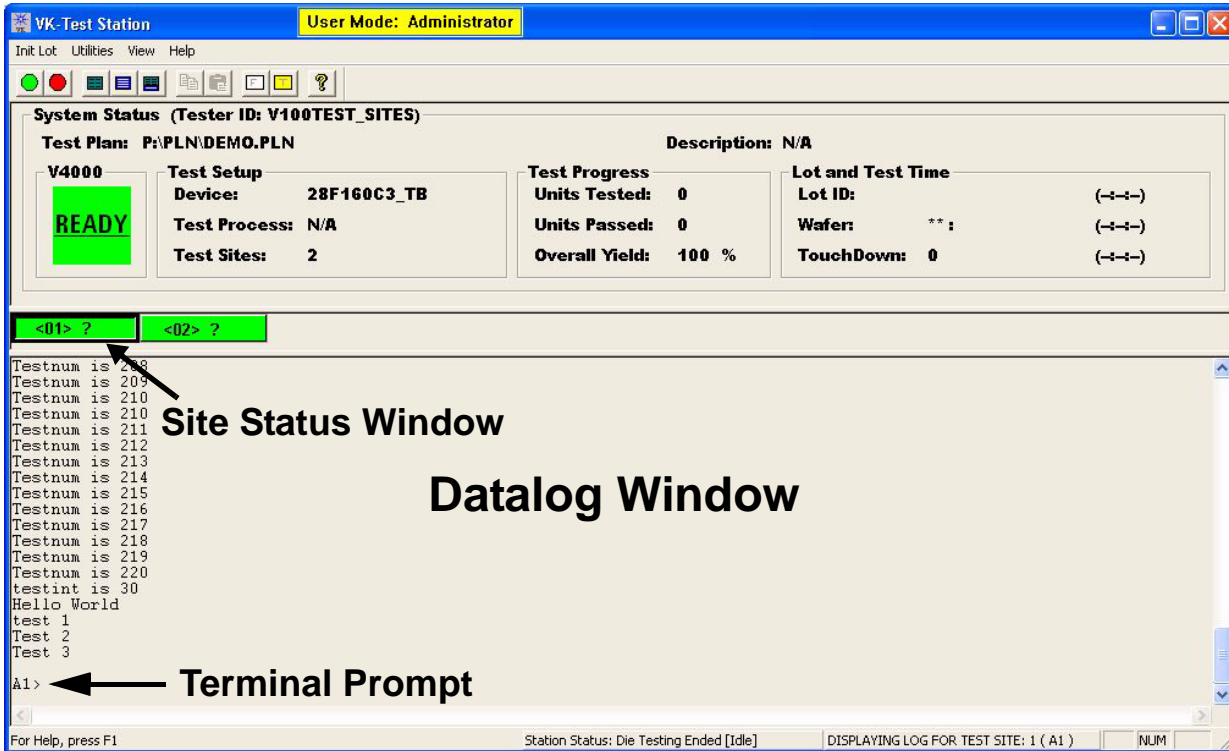

Figure 4-36. VK Test Station Main Window After Power On
- 7 Selecting **OK** begins the test head power on and downloads the Versatest Operating System (VOS) and the test program files specified in the plan file. The power on is complete when the terminal prompt `A1>` displays in the Datalog window (Figure 4-36).